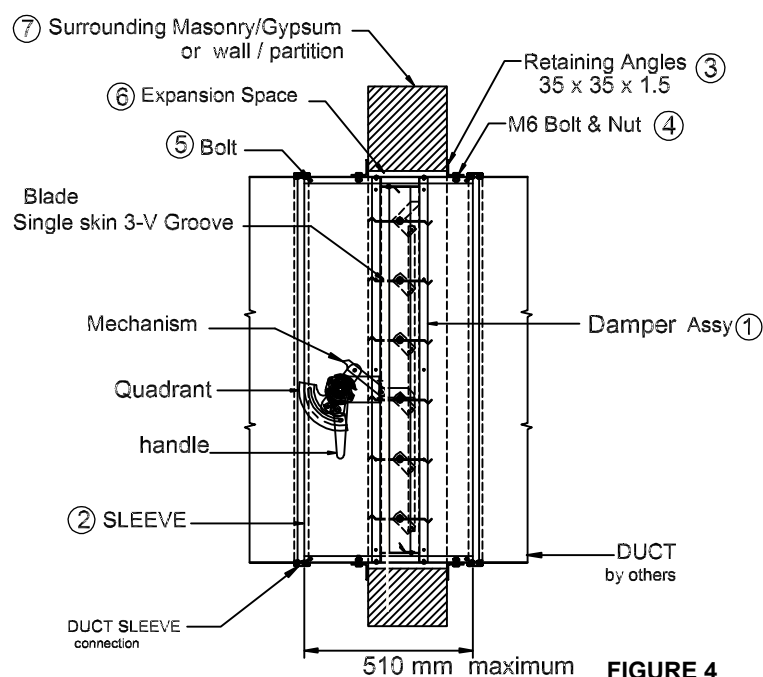

FIGURE 4
- 1) The damper (1) should be installed vertical, centrally and resting on the bottom opening within the surrounding masonry / gypsum wall (7). Actuator should be out of wall / gypsum partition as shown in (figure 4).
- 2) The damper (1) should be installed in a rectangular galvanized steel sleeve (2) with a minimum thickness of 1.1mm. This sleeve should be attached to the damper using M6 bolts (5) and spaced at not more than 110 mm centers and 30 mm from corners.
- 4) The sleeve (2) should be of suitable length to extend through the wall to enable the fitting of the cover angles and ductwork. Minimum of 90mm from the wall and total depth of the sleeve should not exceed more than 510mm.
- 5) The retaining angles (3) should be attached to the sleeve by 6 mm dia (4) bolts at a maximum of 110 mm centers, and should form a complete frame around the sleeve and cover over the expansion space (6) required between sleeve and wall opening. The four corner of the retaining angles are not to be welded. The bolts connecting the retaining angles to the sleeve to be 30 mm maximum from the corners. Retaining angles will be send in loose parts. Note: The retaining angles bolts should be out of the area of the damper frame.
- 6) The retaining angles (3) should be of such a size as always to form an overlap with the wall by 25mm minimum and should be manufactured from a minimum size of 35 x 35 x 1.5mm GI.